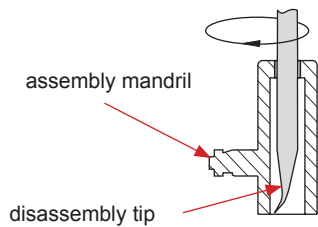

fig. 1
### 1. Assembly of the PTFE seal (fig. 1, 2)
- 2) Introduce the PTFE ring, the wide side to the front, from the top through the housing intermediate ring into the lower housing by means of the assembly tool (fig. 1).
### 2. Assembly of the elastomer seal (fig. 1, 3, 4)
- 2) Introduce the elastomer, the wide side to the front, from the top through the housing intermediate ring into the lower housing by means of the assembly tool (fig. 1).